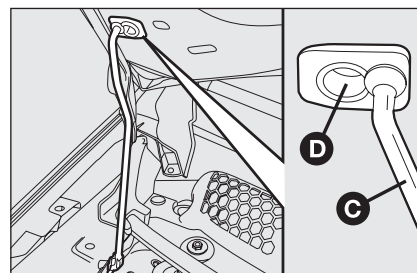

fig. 98
- ☐ lift the bonnet and at the same time release the rod **C**-fig. 98 from the catch, then fit the rod end into the bonnet recess **D**.
- ☐ hold the bonnet up with one hand and with the other remove rod **C**-fig. 98 from recess **D** and fit it back into its catch;